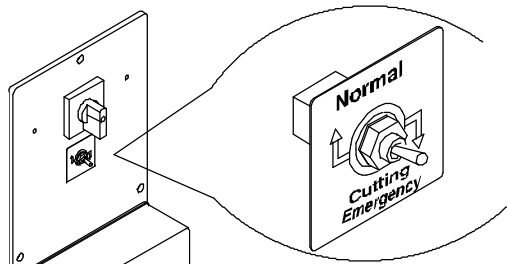

Fig. 19
1) Lower the switch lever, placed on the electrical equipment box, to the Cutting Emergency position (Fig. 19).